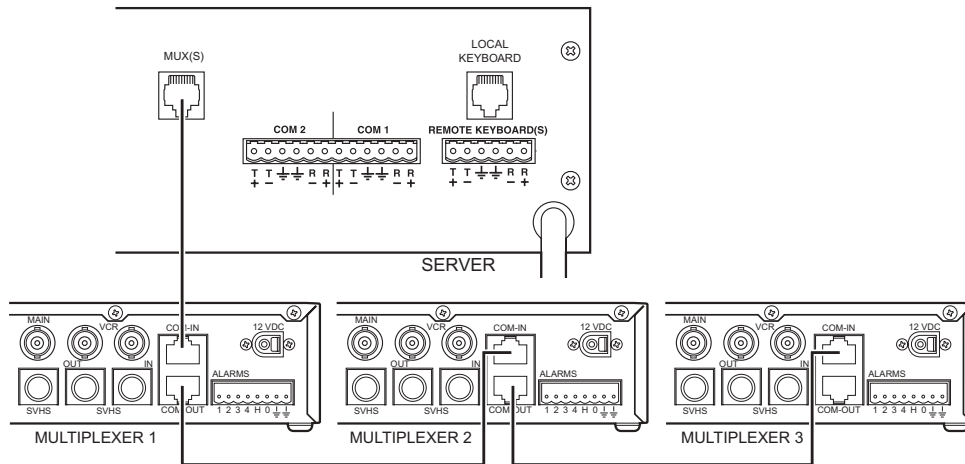

Figure 14. Daisy Chaining Multiplexers to the Server
3. If you are going to daisy chain multiplexers (16 maximum), use the 6-foot (1.8 m) data cables supplied with the multiplexers (refer to Figure 14). Connect a cable from the first multiplexer's COM OUT port to the second multiplexer's COM IN port, then connect the second multiplexer's COM OUT port to the third multiplexer's COM IN port. Continue to unit 16 if necessary.
1. Remove the DIP switch cover plates on the backs of the keyboards. Set the DIP switches (refer to Figure 14). Replace the plates.
3. If you are going to daisy chain multiplexers (eight maximum), use the 6-foot (1.8 m) data cables supplied with the multiplexers (refer to Figure 14). Connect a cable from the first multiplexer's COM OUT port to the second multiplexer's COM IN port, then connect the second's COM OUT port to the third multiplexer's COM IN port, etc. Continue to unit 8 if necessary.